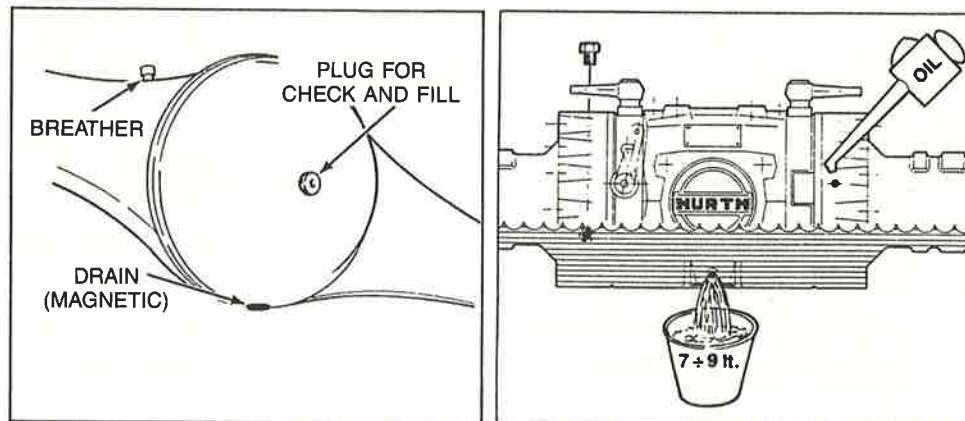

Figure 52. Differential
12. **DIFFERENTIAL** — Keep oil at level of the plug on rear of differential (See Figure 52). If low, add per component capacities chart on page 58.